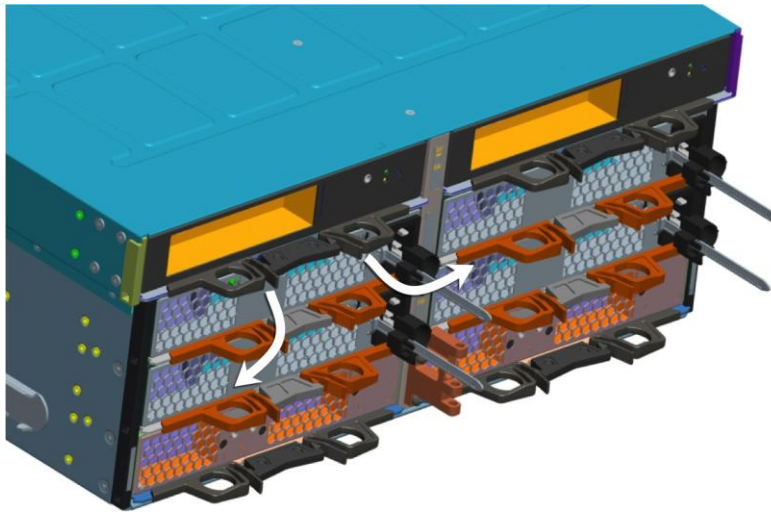

Figure 40. **Opening SBB Canisters**
2. With tabs pressed, pull ring handles to disengage canister from locking tabs (Figure 40).